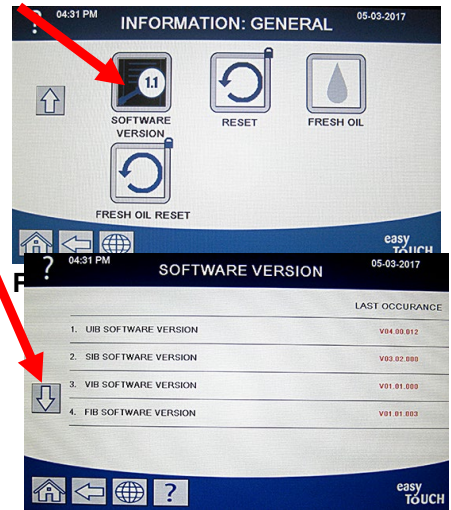

Figure 19
16. Press the down arrow button **TWO** (2) times (see Figure 19).